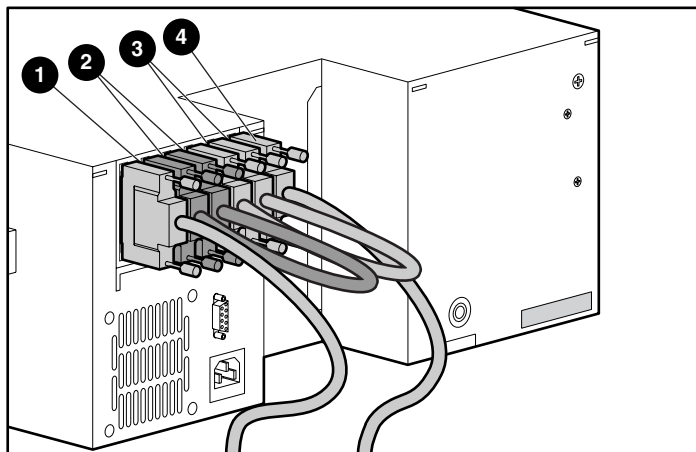
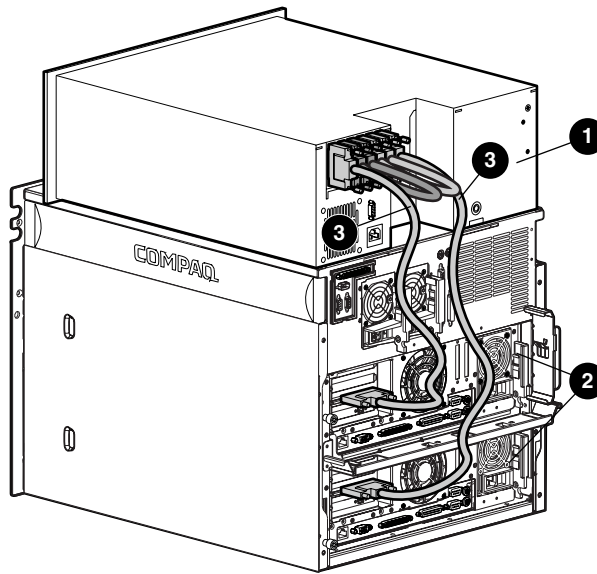

Figure 1. Attaching cables to the MiniLibrary
Figure 2. Attaching cables to the servers
2. Attach the cables as to the MiniLibrary as shown in Figure 1.
3. Attach the cables to each server node as shown in Figure 2.
2. Attach the cables as show in Figure 1 and Figure 2.
1. Attach the cables to the existing Compaq 64-bit Dual Channel Wide-Ultra2 SCSI controllers. (See Figure 2 for an example.)
**NOTE:** Your actual configuration may appear slightly different than shown in Figure 2.
2. Attach the cables as show in the examples in Figure 1 and Figure 2.